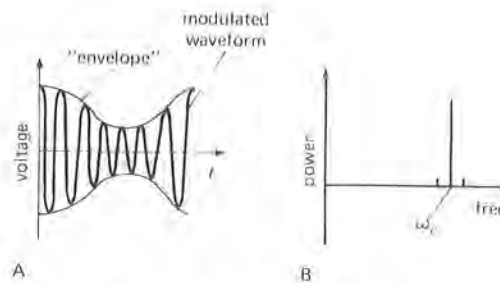

Figure 13.37. Amplitude modulation.
i.e., the modulated carrier has power at frequency  $\omega_c$  and at frequencies on either side  $\omega_m$  away. Figure 13.37 shows the signal and its spectrum. In this case the modulation ( $m$ ) is 50%, and the two “sidebands” each contain  $\frac{1}{16}$  of the power contained in the carrier.